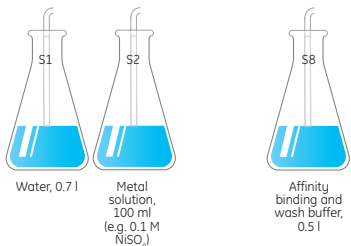

Fig 1. Solutions required to run the "Metal Ion Charging" template.
- Prepare required solutions (see Figure 1).
- Place the inlet tubings in the solutions according to Figure 1.